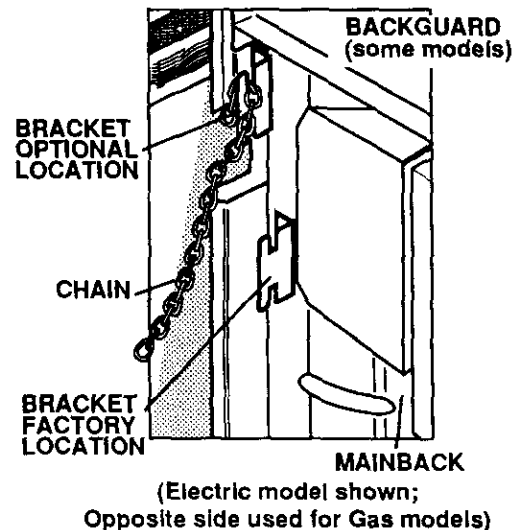

Fig. 1
- 1) Before placing range in the counter, notice the location of the stability bracket which is already attached to the back of the range. This location should work for most installations. However, it may be more convenient to hook the stability chain to the unit when the stability bracket is attached to the upper set of holes in the back of the range (See Fig. 1). The upper set of holes are intended for use with a backsplash kit. If a backsplash kit is being used, the stability bracket can be relocated and put on at the same time as the backsplash kit. If the backsplash is not being used, make sure that there are no structural supports for the countertop which will interfere with the stability bracket when located in the upper set of holes.
- 5) Hook the loose end of the chain onto the bracket by slipping the nearest link of the chain into the slot in the bracket (See Fig. 1), making sure the chain is